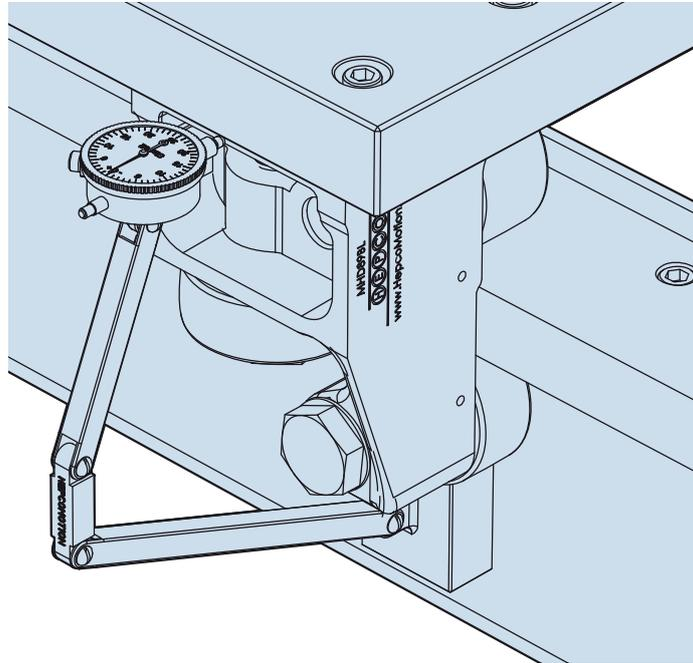

Figure 6
19. Confirm the alignment of the carriage to the track by moving the carriage along the track with a suitable measuring device running on the relevant register face of the MHD blocks, as shown in Figure 6. This should indicate that each block is parallel with the track and that the blocks on each side of the carriage are in line with each other. Re-adjust system if it is not correctly aligned.